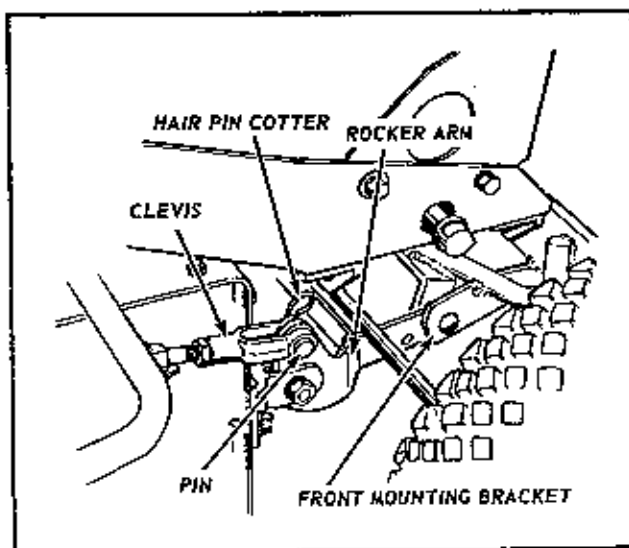

FIG. 2
2. Connect the rocker arms to front mounting brackets under the tractor, by using pins and hair pin cotters as shown in figure 2.